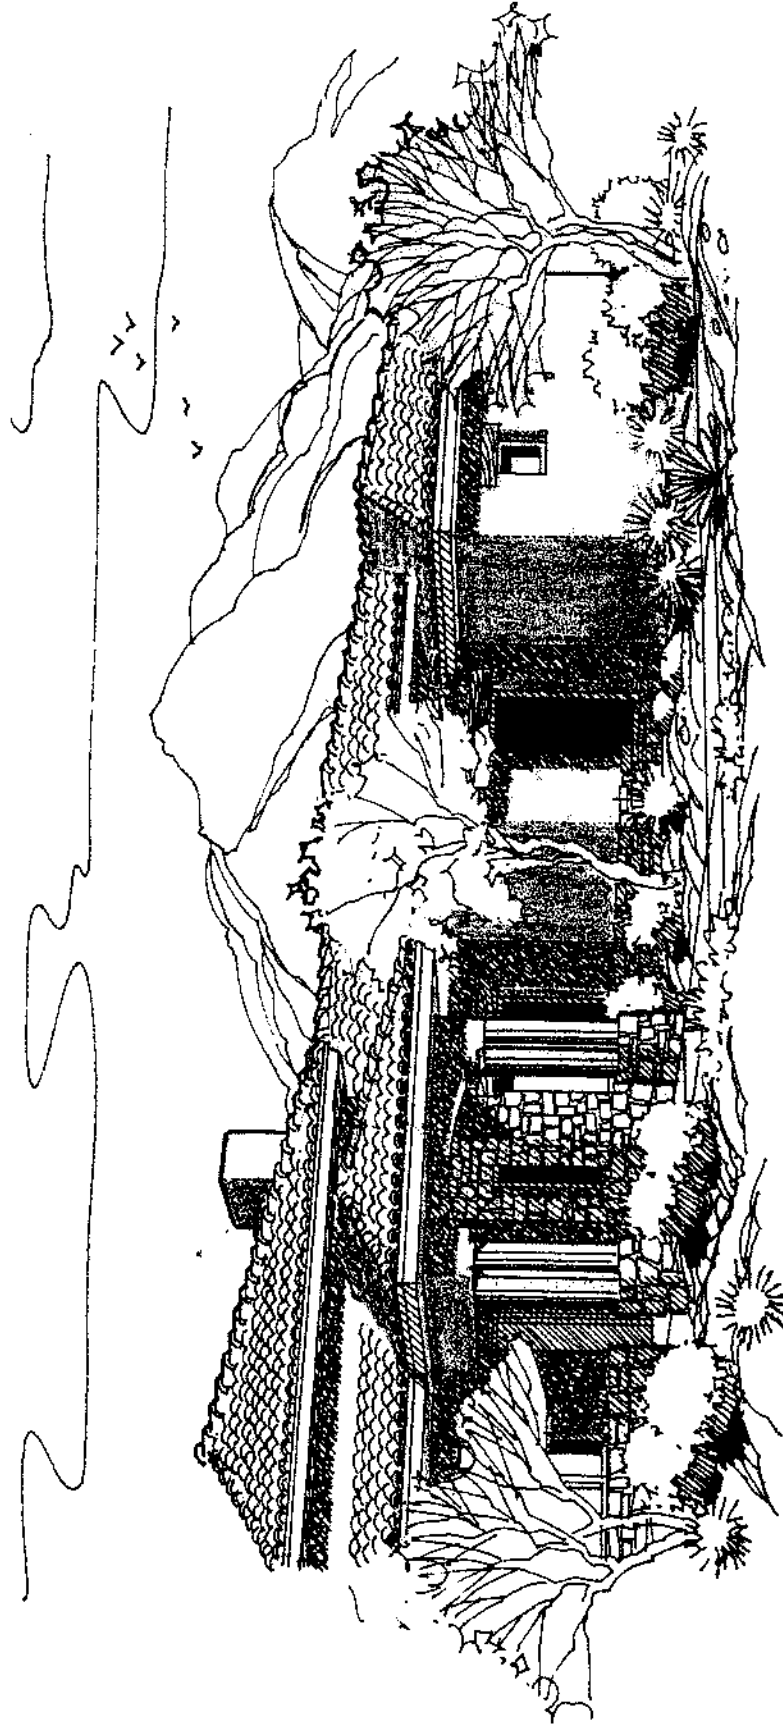

Figure 7 - Exterior Materials
- Figure 7 - Exterior Materials